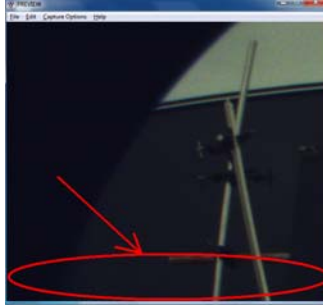

Figure 1: VideoPoint Capture - Controls absent
- 2) **If you do not see controls in VideoPoint Capture (as in Figure 1) see “Resolution Settings”**